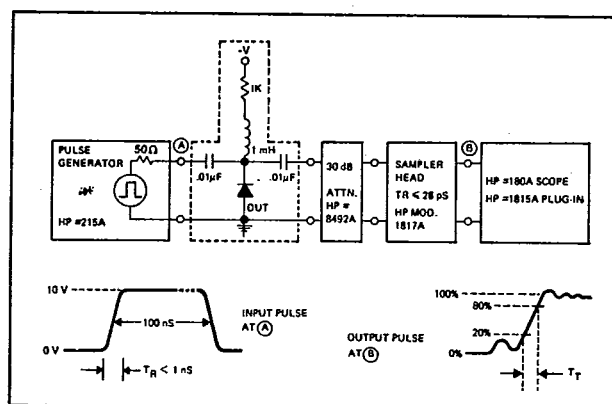

Figure 5. Transition Time, T_T , Test Set-Up
4. Measured at $V_R = 10$ volts, $I_F = 10$ mA (see Figure 5)